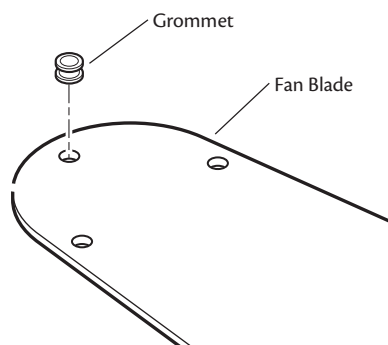

Figure 18 - Inserting the grommets into the fan blades
- Your fan may include blade grommets. If your fan has grommets, insert them by hand into the holes on the blades as shown in Figure 18.